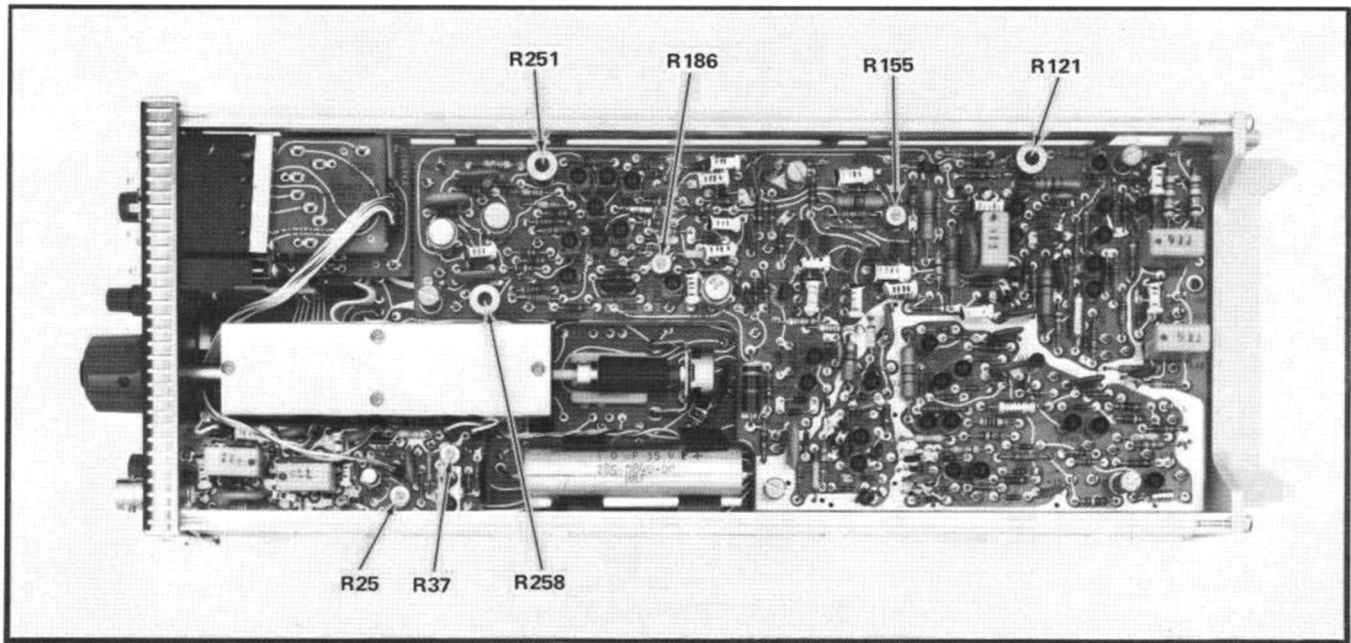

Fig. 5-2. Location of adjustments on Trigger Board.
c. ADJUST—R251 for a stable display. See Fig. 5-2 for location of adjustment.
2. Adjust Lower Positive Slope P-P AUTO Level (R258) ①
b. ADJUST—R258 for a stable display. Refer to Fig. 5-2 for location of adjustment.
3. Adjust Negative Slope P-P AUTO Level (R155) ①
b. ADJUST—R155 for a stable display. Refer to Fig. 5-2 for location of adjustment. Check for stable triggering over the full 360° range of the LEVEL/SLOPE control.